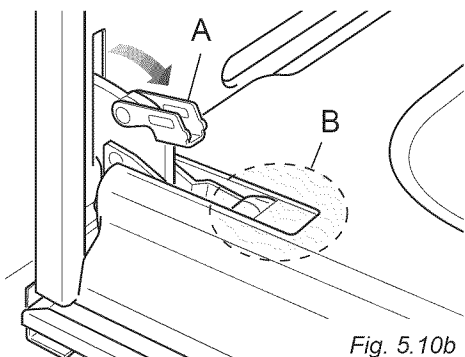
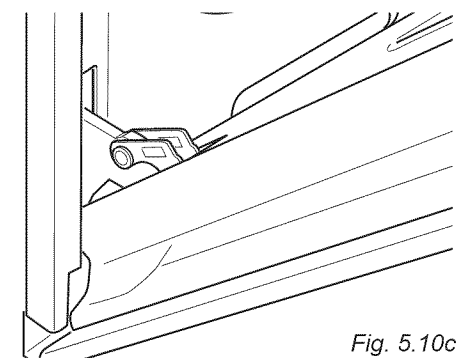

Fig. 5.10b
Fig. 5.10c
- Open the lever "A" completely on the left and right hinges (fig. 5.10b).
- Gently close the door (fig. 5.10c) until left and right hinge levers "A" are hooked to part "B" of the door (fig. 5.10b)